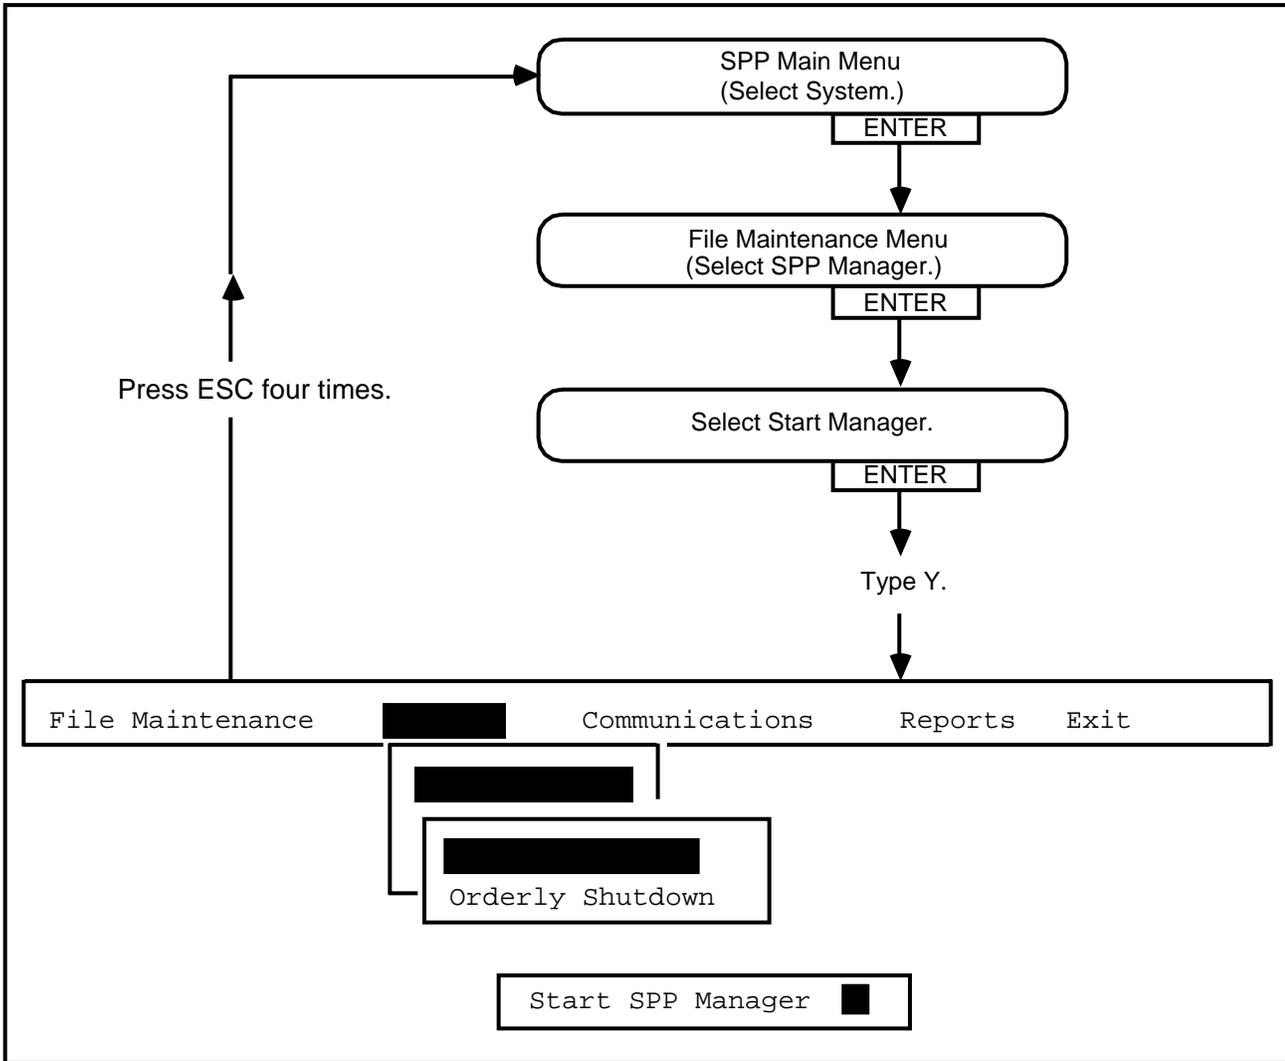

Fig. 4-1
4.02 The Start Manager menu (see Fig. 4-1) activates the SPP manager. This enables all of the ports that are configured by means of the Port Information screen of the File Maintenance menu. To activate the SPP manager, proceed as follows: